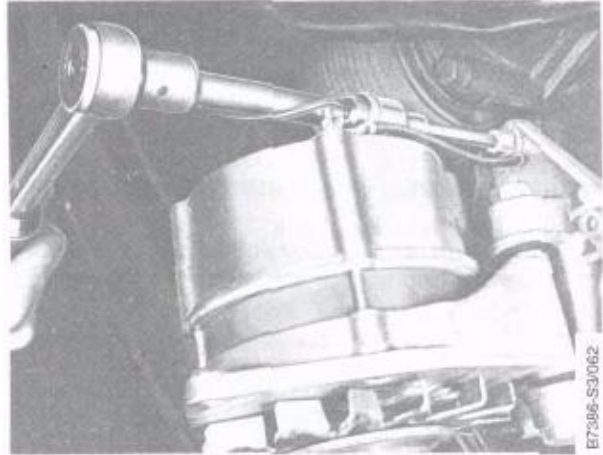

Fig. 1. Alternator mounting bolt being removed,
4. Remove the alternator mounting bolts and the alternator. See Fig. 1